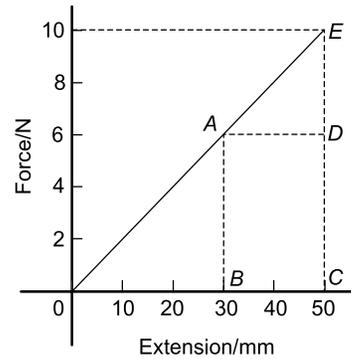

Figure 15.6
Figure 15.6 shows the force/extension graph for the spring.
- (a) Work done in extending the spring from zero to 30 mm is given by area $AB0$ of Figure 15.6,
- (b) Work done in extending the spring from 30 mm to 50 mm is given by area $ABCE$ of Figure 15.6, i.e.